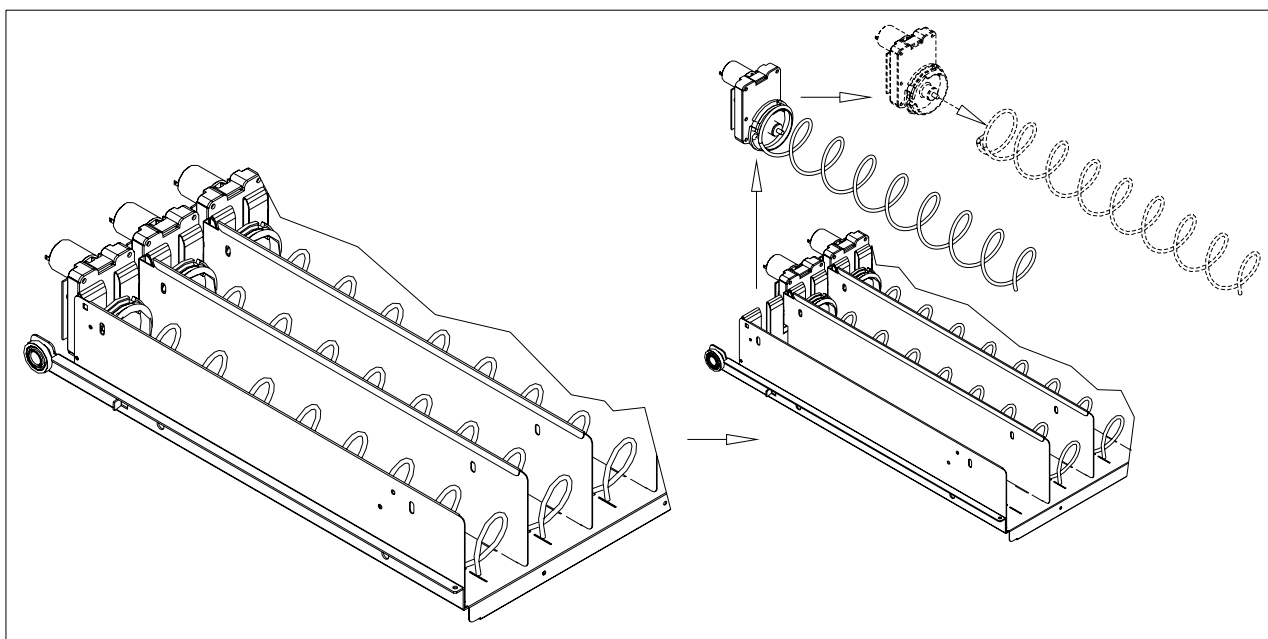

FIG. 7
9.2 SUSTITUCION ESPIRAL Y GRUPO MOTOR EXPULSOR (FIG. 7)